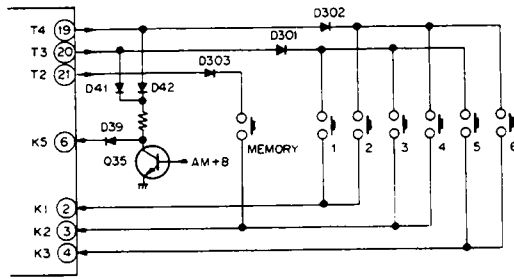

Fig. 4-11 Memory Write-in Circuit
When an input is applied to K2 according to T2 timing (MEMORY key), and then an input applied to K1—K3 according to T3 and T4 timing within a prescribed length of time (3 seconds) (STATION CALL key), the tuned frequency will be stored in one of the memories (1) to (6) (see Fig. 4-11 and Table 4). And by switching between AM and FM bands (an input applied to K5 according T3 and T4 timing), frequencies may also be stored in memories (7) to (12).